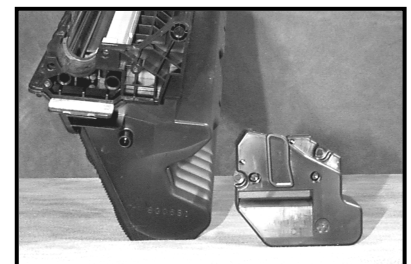

Figure 4
1. On the toner hopper disassembly: remove the two screws holding the end cap in place (fig. 4).